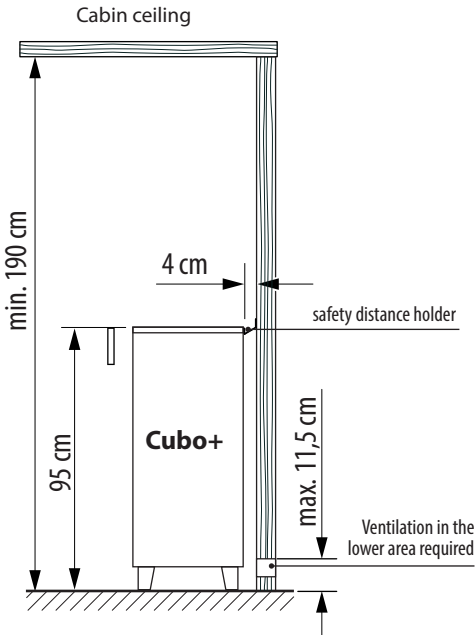

Fig. 1
- The minimum height of the sauna cubicle is **1.90 m** on the inside (Fig. 1)